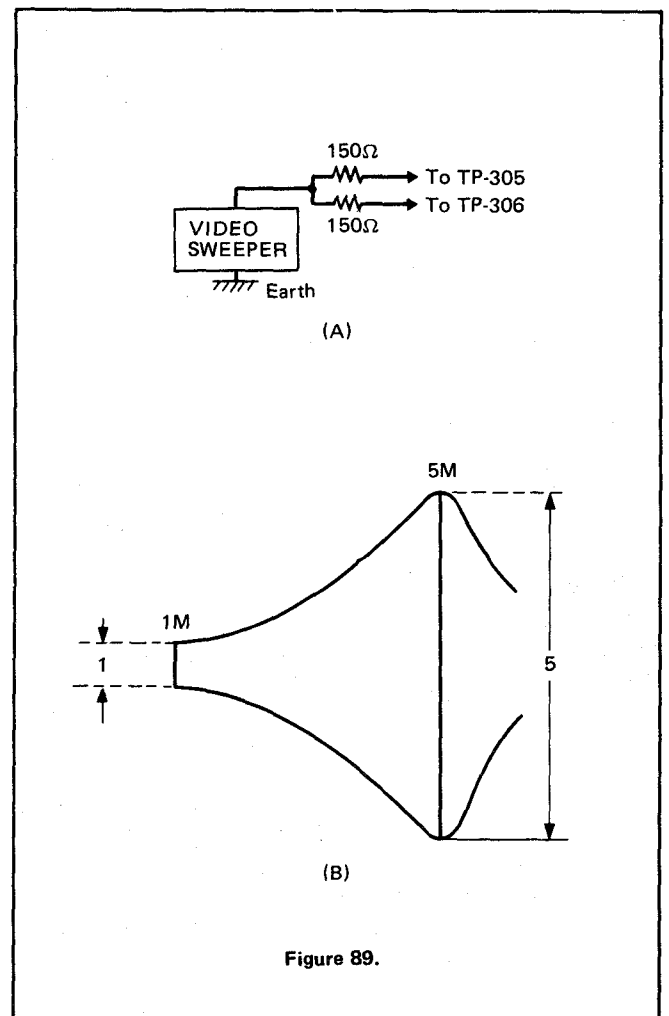

Figure 89.
2. Connect the output of a video sweeper to TP-305 and TP-306 of the set. See Fig. 89-(A).
4. Then proceed with the adjustment, looking at Fig. 89-(B) hereof.
- 2) Adjust the V-gain control of oscilloscope and R391 (balance control) so that 1 MHz zone of the resultant waveform will be as shown in Fig. 89-(B) consider this zone to be 1 (a reference value).